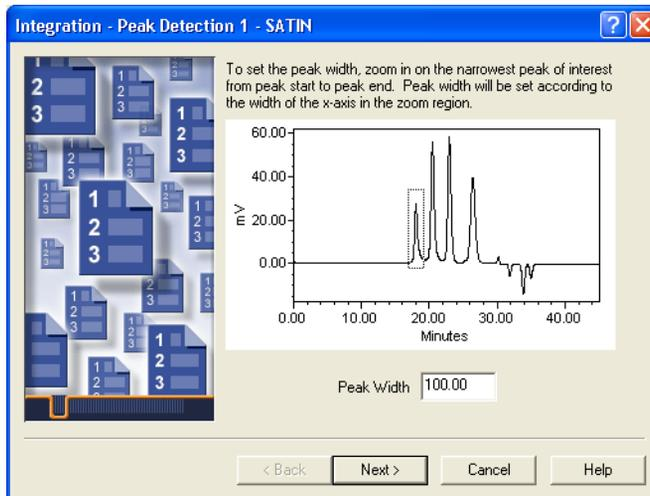

Figure 2-6 Setting the Peak Width
11. Select **GPC** from the Processing Type list . Make sure the **Use Processing Method Wizard** check box is selected, then click **OK**. The Integration– Peak Detection 1 page of the GPC Processing Method Wizard appears (Figure 2-6). This page allows you to set the peak width value.
12. Click-drag the cursor to draw a box around the narrowest peak of interest to set the peak width (Figure 2-6). You can also type the peak width value instead of graphically selecting the peak width.